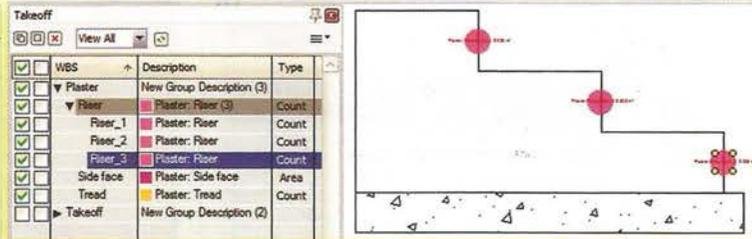

Fig 47: Count
- Select the 'Riser' item and use the 'Count' tool to select all the three risers (Figure 47).